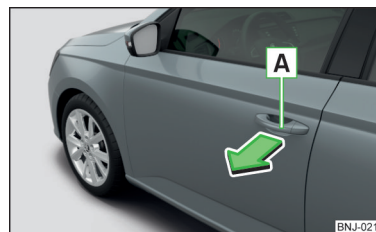

Fig. 33
- To **open from the outside**, unlock the vehicle and pull the door handle **A** in the direction of arrow » Fig. 33.